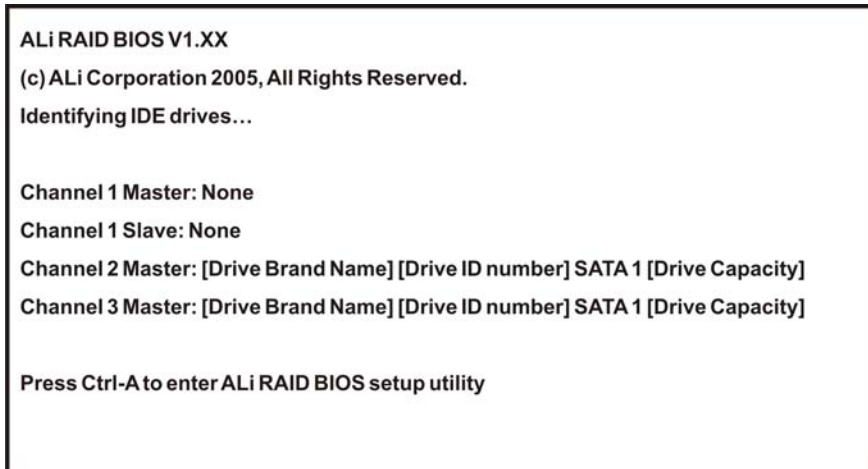

Figure E-1: Accessing ALi RAID BIOS Utility
- Step 5: Press Ctrl-A.** When the screen in **Figure E-1** appears press **Ctrl-A** to enter the **ALi RAID BIOS** setup program.